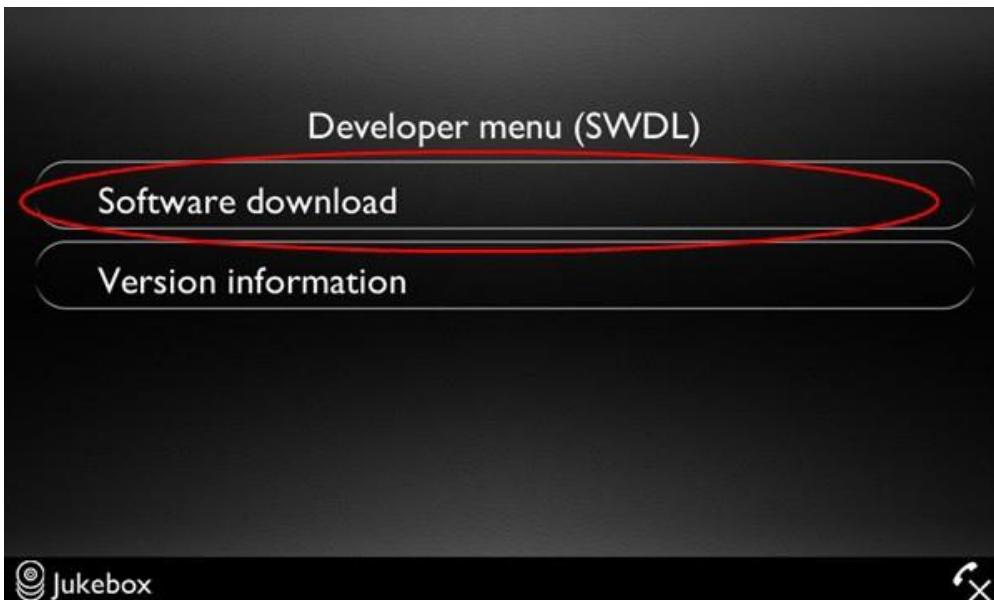

Figure 8
10. Referring to Figure 7 - Press and hold the Return button (1) first and then immediately press and hold the MEDIA button (2) on the infotainment unit - Keep both buttons pressed until the *Developer menu* (SWDL) screen is displayed (Figure 8).
11. Referring to Figure 8 - Select - Software download